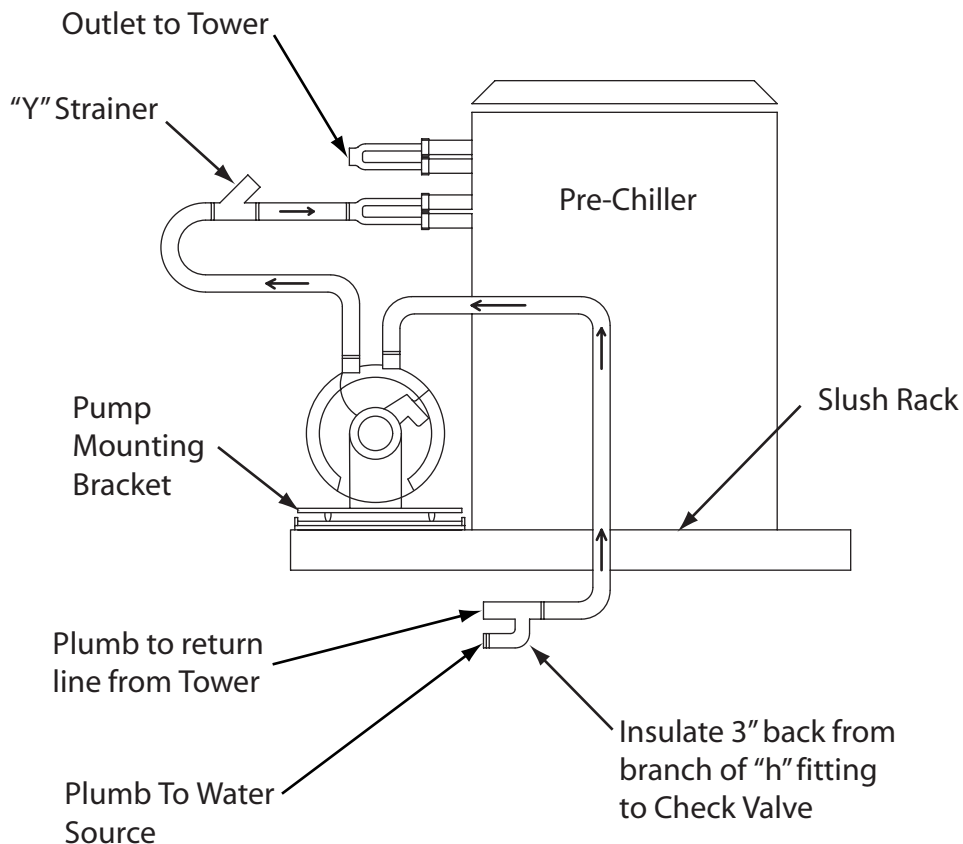

Figure 1
3. Connect a piece of 3/8" tubing from check valve to an "h" fitting as shown in diagram(Figure 1).